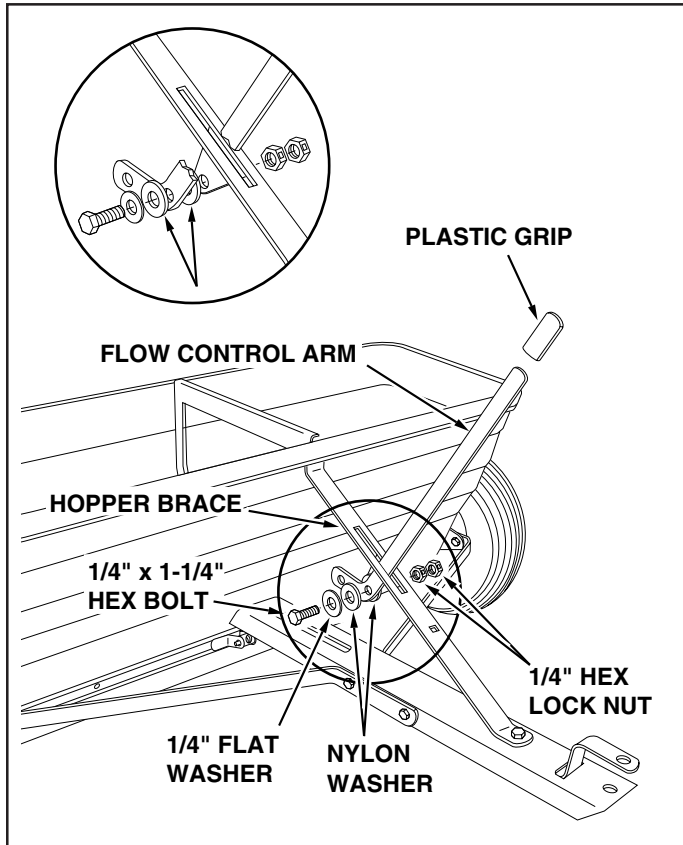

FIGURE 4
- Assemble the plastic grip onto the end of the flow control arm as shown in figure 4.
- Attach the flow control arm to the plate on the underneath side of the hopper brace as shown in figure 4, using a 1/4" x 1-1/4" hex bolt, a 1/4" flat washer, two nylon washers and two 1/4" hex lock nuts. The nylon washers should be placed on each side of the flow control arm, with one washer between the arm and the plate. **Tighten** the first hex lock nut until there is noticeable resistant when moving the flow control arm. **Tighten** the second hex lock nut.